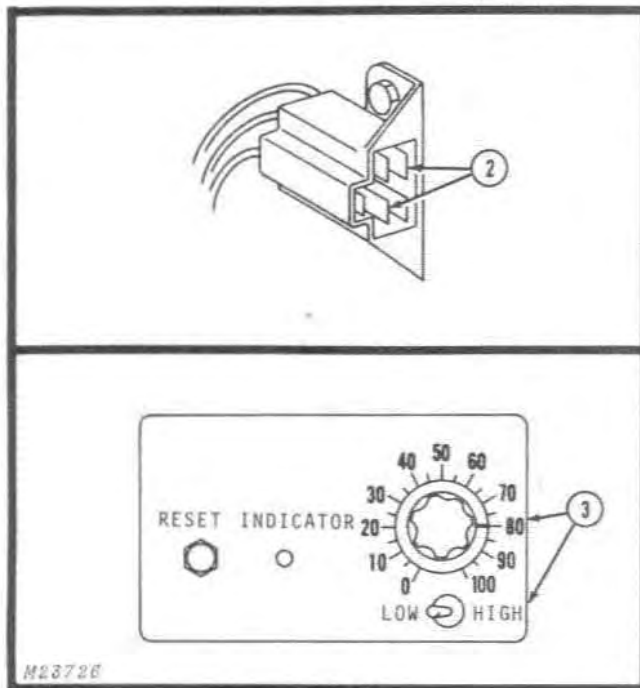

Fig. 1-Testing Alternator Output
1. Disconnect five-wire coupler, Fig. 1.